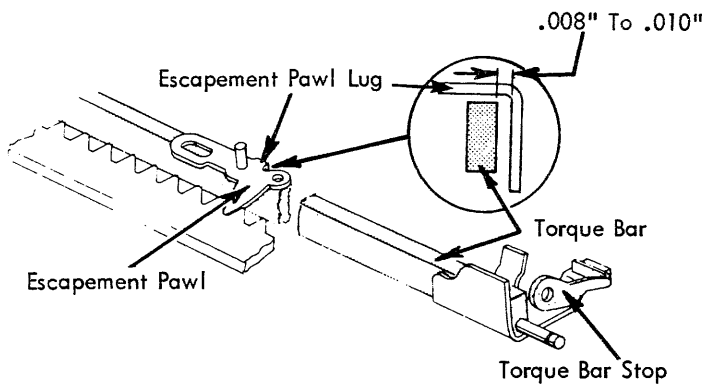

FIGURE 100. Torque Bar Stop (New Style)
- a. Late - The torque bar stop located at the right end of the torque bar should be adjusted for a rest position clearance of .008" to .010" between the torque bar and the lug on the escapement pawl (Fig. 100).